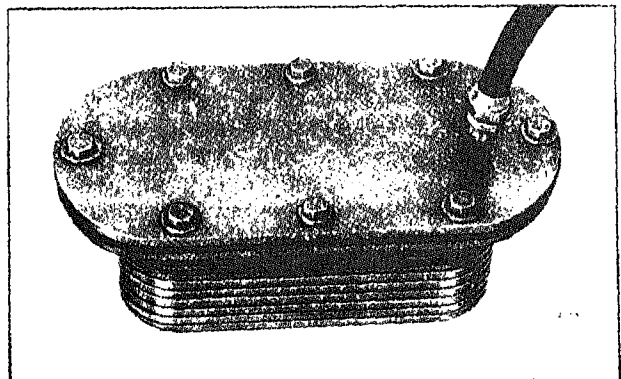

Fig. 2 - Preparing Oil Cooler Core for Pressure Test
1. Make a suitable plate and attach it to the flanged side of the cooler core. Use a gasket made from rubber to assure a tight seal. Drill and tap the plate to permit an air hose fitting to be attached at the inlet side of the core (Fig. 2).